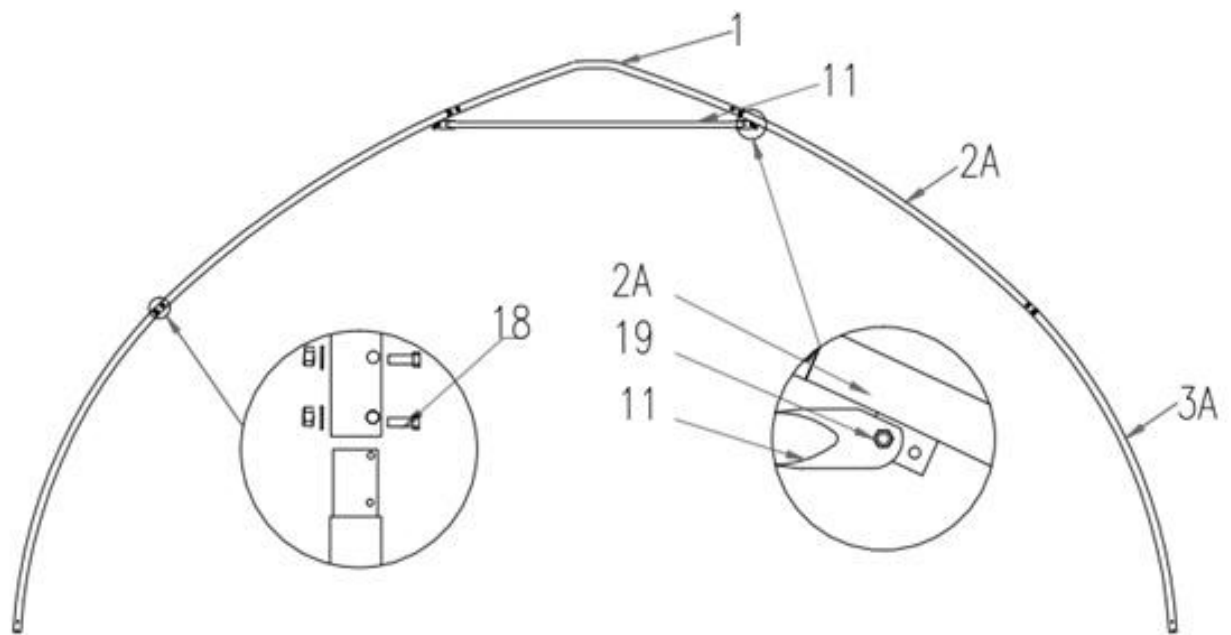

Figure 2
- The building includes 13 trusses : (1) Front truss (1st truss), (1) rear truss (13rd truss), and (11) middle trusses. The front and rear trusses are installed with the fabric panel (#23)
- Both front and rear truss include the following parts. Connect all tubes with bolt (#18) (refer to figure 2).